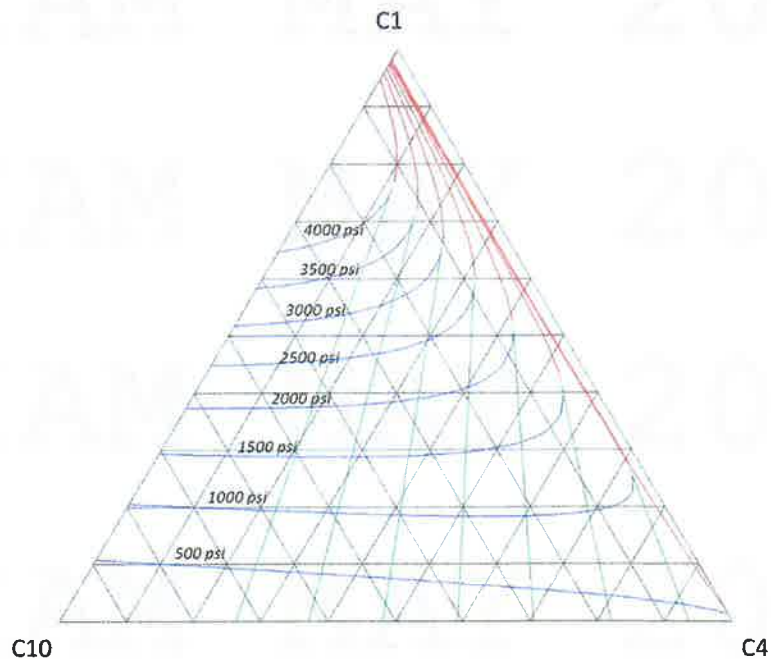

FIGURE Q3b: Ternary Diagram at 280 °F
- b. **FIGURE Q3b** shows vapor-liquid equilibria for methane, butane, and decane at 280 °F and various pressures. Imagine the butane is injected as the injection fluid and reaches saturation pressure of 1500 psi. Estimate the mole fractions of each component of this composition under this condition.